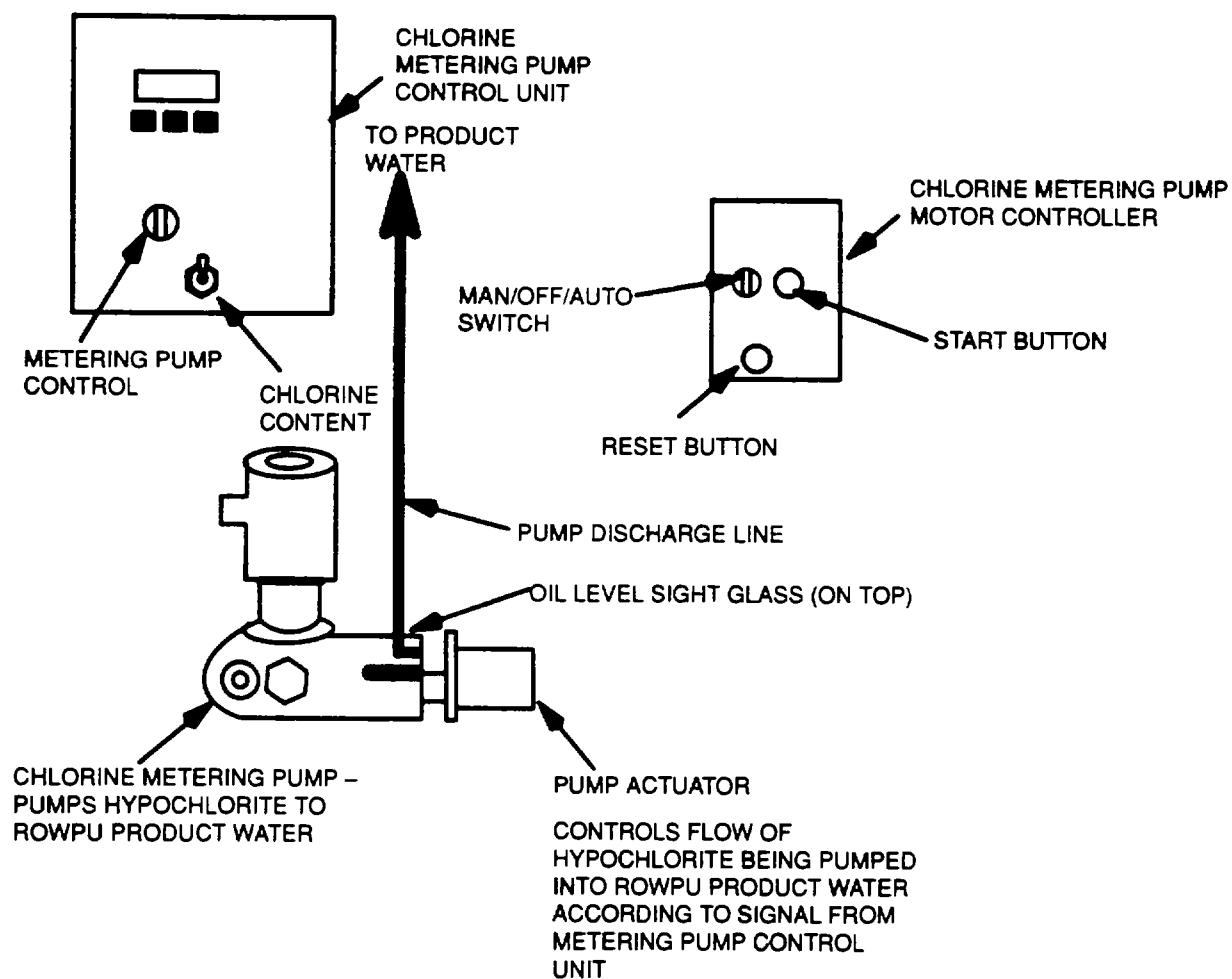

Figure 3-2. Chlorine Metering Pump Controls
- k. Turn chlorine metering pump motor controller AUTO/OFF/MAN switch (Figure 3-2) to AUTO.